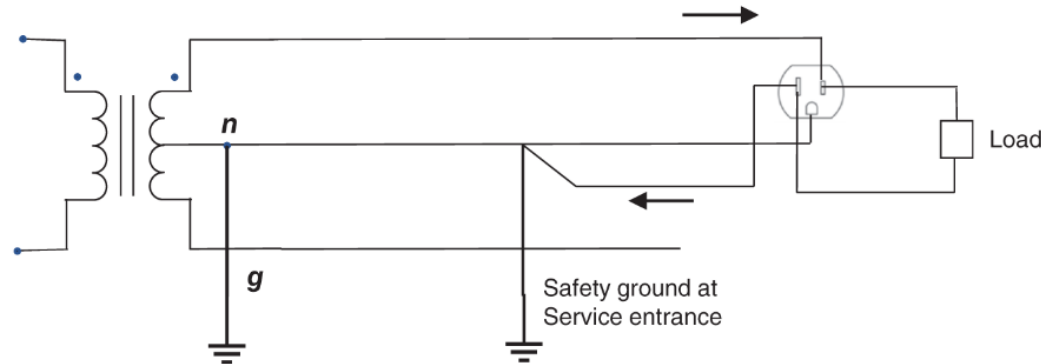

Figure 10.7: Hazard due to reversal of ground and neutral wires at load.
- Figure 10.7 shows the return conductor of a load is connected to the ground, and neutral is connected to the body of the load, such as an iron. Thus, touching the body of the iron creates a path in parallel to the path for load to the ground, which will send a small amount of current through the person touching the conducting element of the iron.